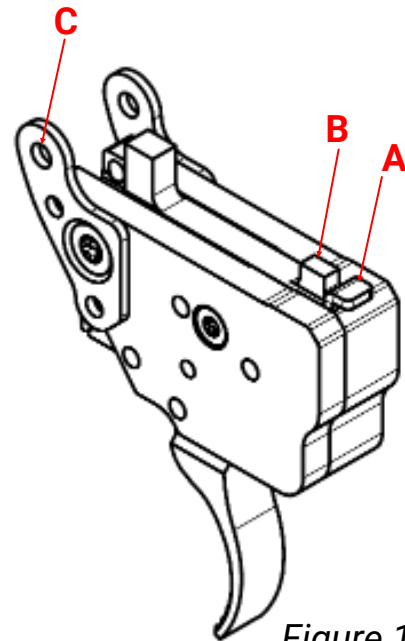

Figure 1
Figure 1 is referenced below for pin and interface locations (**A, B, C**).
- Using a suitable punch, gently drive out the **retaining pins (C)** (see **Figure 1**).
- Confirm that the **rear hook of the trigger (A)** and the **lug (B) on the safety slide** engage cleanly with the **cut-out in the safety slider** (see **Figure 1**). Proper engagement here is essential for safe trigger and safety operation.